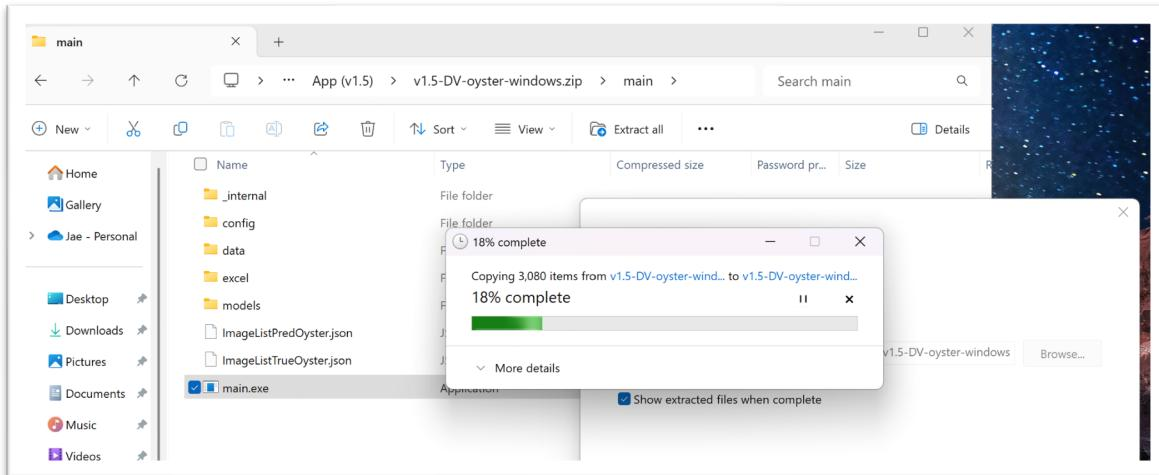

Figure 1.5. The files being extracted.
6. The files will be extracted and saved to your computer (Figure 1.5). This may take several minutes.